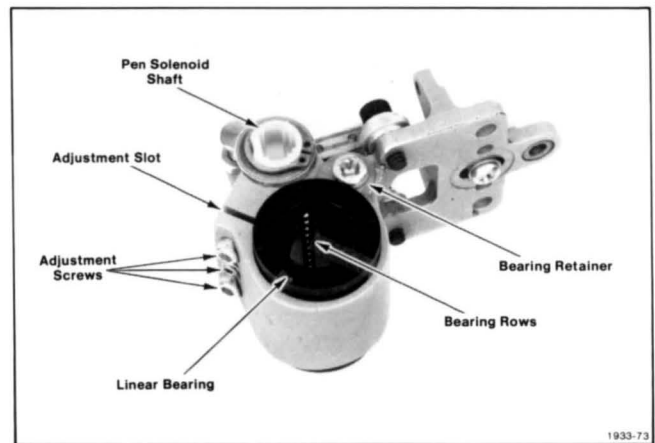

Figure 3-13. Linear Bearing Assembly.
The linear bearing is the sleeve of the pen actuator assembly (front of the Y-axis arm) that slides along the front X-axis shaft. (This X-axis shaft is not the square pen solenoid shaft.) See Figure 3-13.
9. **Loosen** the three adjustment screws (see Figure 3-13).
- 13. Rotate** the linear bearing in the pen actuator assembly to align the adjustment slot (Figure 3-12) so that it is over one of the casting seams on the linear bearing (see Figure 3-13).
- 18. Install** the two bearing retainers (see Figure 3-13).